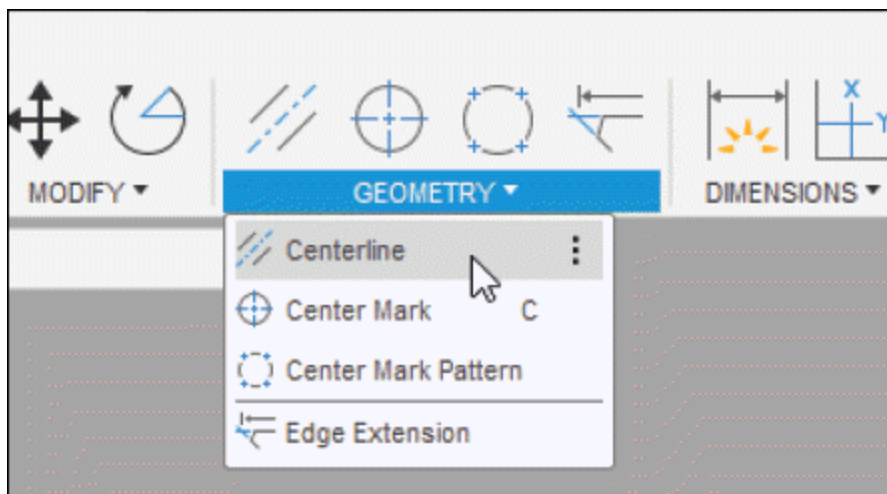

Figure-39. Centerline tool
- Click on the **Centerline** tool from **GEOMETRY** panel; refer to Figure-39. The tool will be activated.